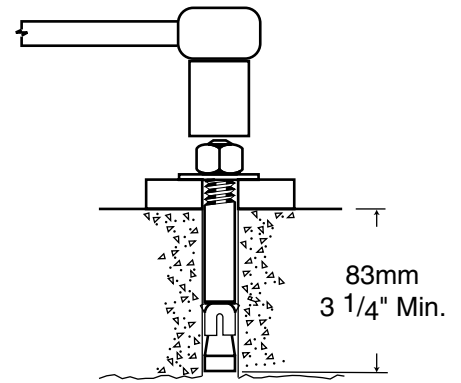

Fig. 14
- D. Place shims (estimated in Step 3) under each column. Drill four $\frac{5}{8}$ " or 16mm diameter holes through concrete floor using base holes as guide, Fig. 14. Repeat for other columns.
- F. Tighten nuts, Fig. 14. Check columns for plumb and level. Re-shim if necessary. Torque anchor bolts to 90-95 Ft-Lbs. or 122-129 N-m., Fig. 14.